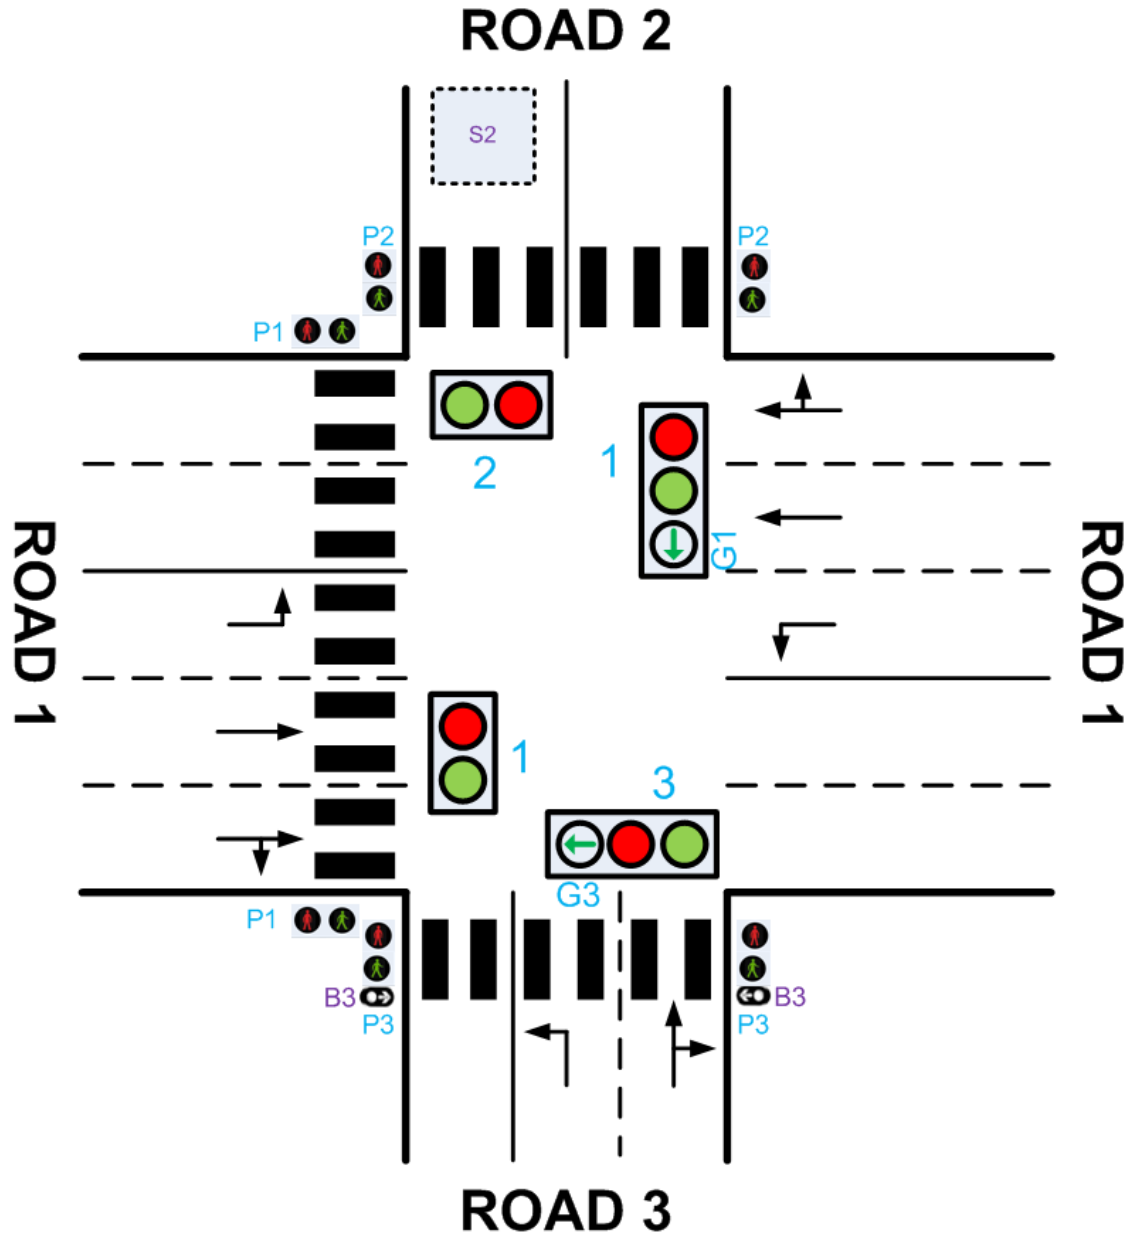

Figure 1: INSERT CAPTION HERE
*Labels 1,2,3,P1,P2,P3,B3,S2,G1,G3 can be found in Figure 1.*
- Labels **1,2,3,P1,P2,P3,B3,S2,G1,G3** are defined on page 2 and in Figure 1 on page 1.